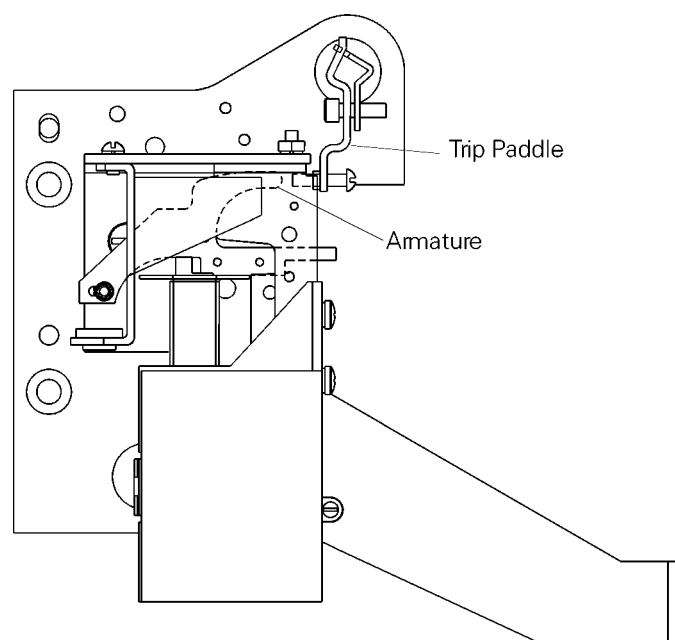

Figure 8-13. Side view of the installed undervoltage trip device.
3. The adjusting screw in the trip paddle must line up with the undervoltage trip device armature striker plate. Figure 8-13 shows the installed undervoltage trip device in side view. If necessary, adjust the position of the trip paddle so that it is properly aligned.